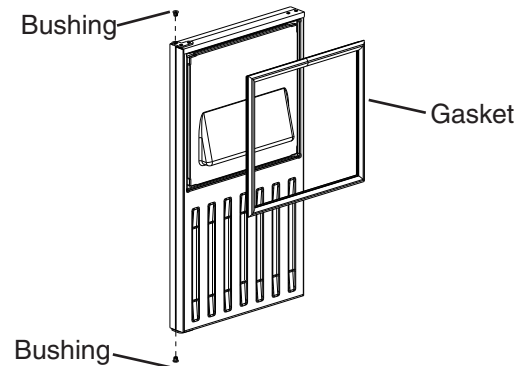

Fig. 27
- 8) Replace the door gasket in its proper orientation. Reinsert the bushings into hinge (C1) and hinge (C2) (the hinges attached to the door). See Fig. 27.